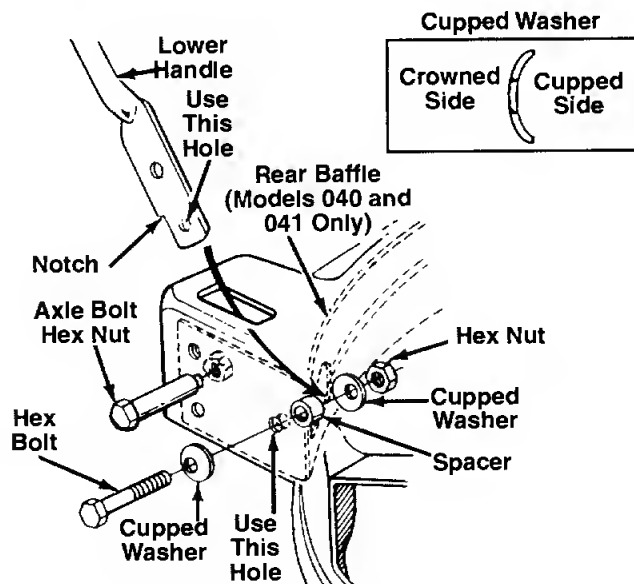

FIGURE 5A.— Models 030 thru 041
2. **Model Series 040 only:** Place the rear baffle in position inside the rear of the deck. Use one axle bolt and hex nut on each side of the rear of the deck to secure baffle temporarily so you can attach the lower handle. See figure 5A.
5. Place one spacer between the bottom hole in lower handle and forward hole in deck (model 030 series) or baffle (model 040 series). See figure 5A. Use a screwdriver to pry the handle away from the deck or baffle if necessary.